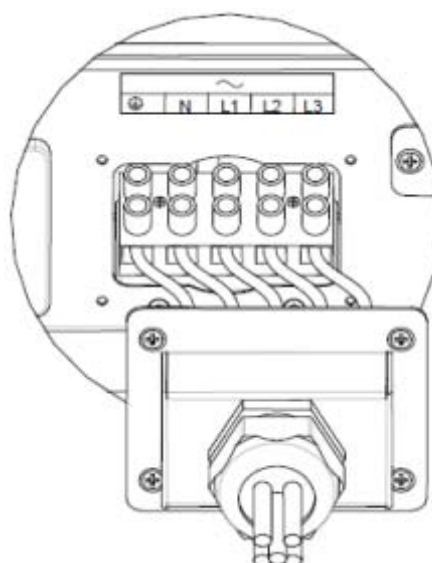

Fig.5.1.10
- 2) Connect five standard cables into relevant terminals. The five cables should be put through the protection shell, as Fig.5.1.10.